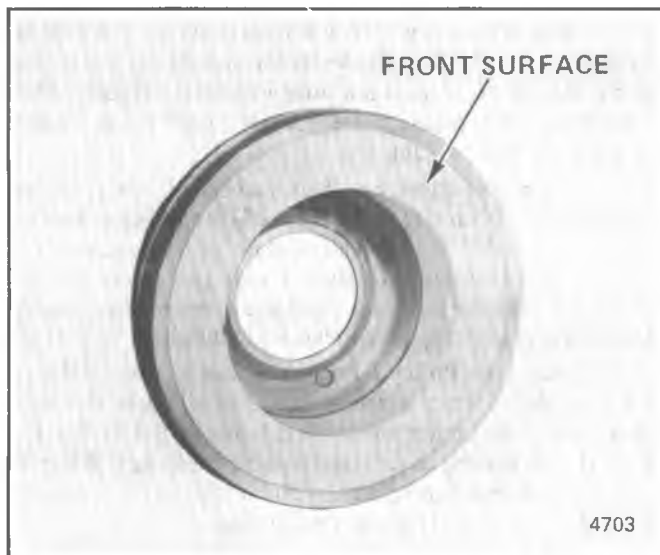

Fig. 1D-84 R-4 Clutch Coil Asm.
3. Slide the pulley rim off the Rotor and Hub assembly. The Pulley Rim and the Clutch Coil (Fig. 1D-84) are replaceable at this point.